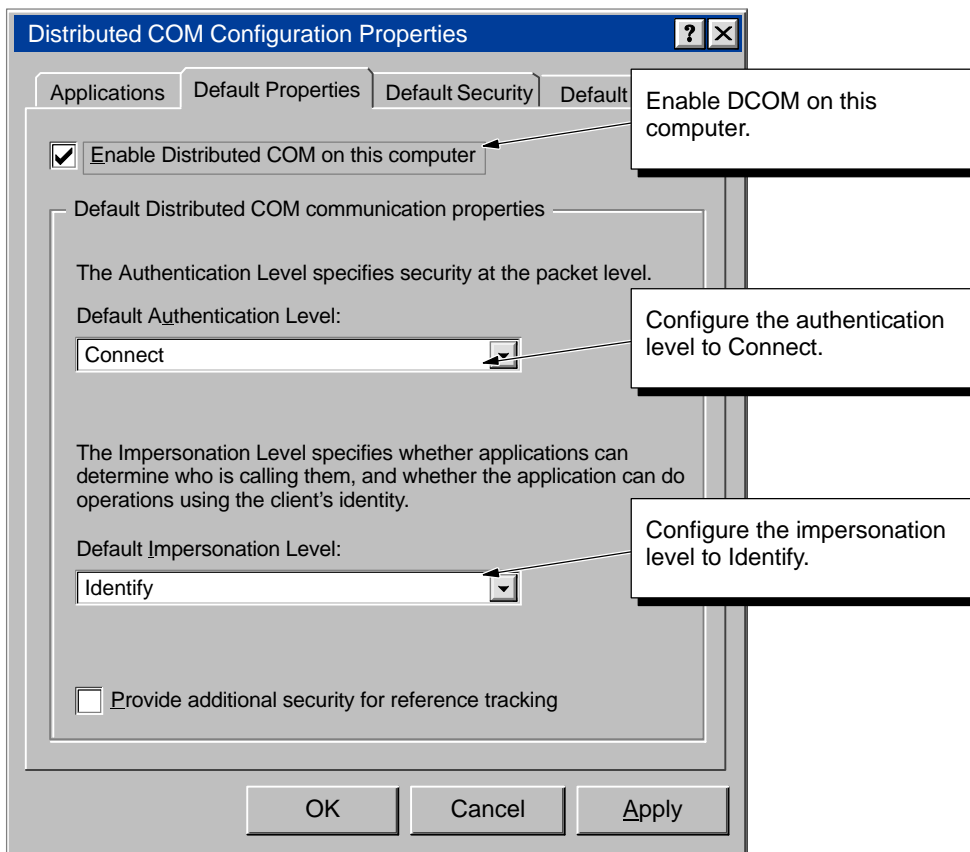

Figure D-13 Distributed COM Configuration Properties
1. Click on the Default Properties tab. See Figure D-13.